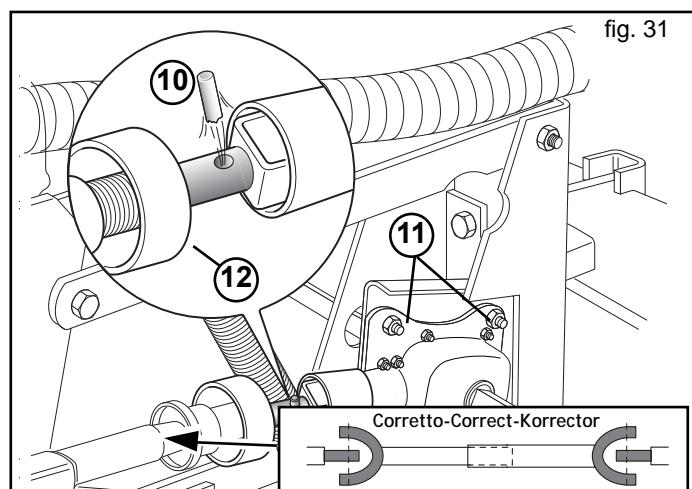

fig. 31
Each box has a safety pin (10, Fig. 31). When the rotation of the seed disc comes under strain or stops due to the entering of foreign bodies with the seeds (paper, string etc.), empty the seeds from the container, check and clean the distributor, check the disc pins and replace the safety pin.
Each transmission shaft has a torque limiter with a sound alarm (12, Fig. 31) that, when the pin breaks (10, Fig. 31), signals the anomaly or breakdown that has occurred in the distributor. If this happens, stop at once and remedy the situation; remove the broken pin and replace it (use the pin punch supplied).
**CAUTION!** Do not completely tighten the screws that hold the box (11, Fig. 31); oscillation is expected.